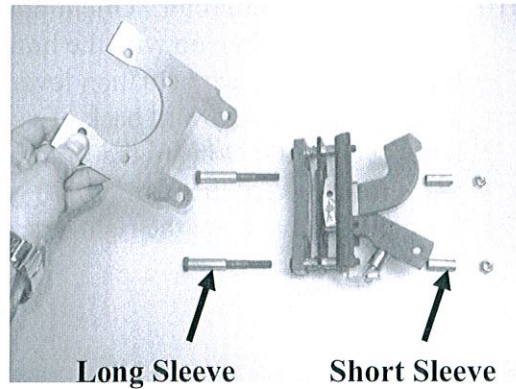

Fig 4 – remove mount bracket
6. On each new caliper assembly, remove the mounting bracket by removing the bolts and spacer sleeves. (See Fig 4)